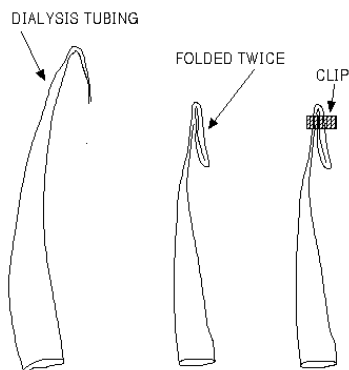

Figure 2: Folding the Dialysis Tube.
- (b) Fold over the end of the bag about 3 mm twice. See Figure 2.